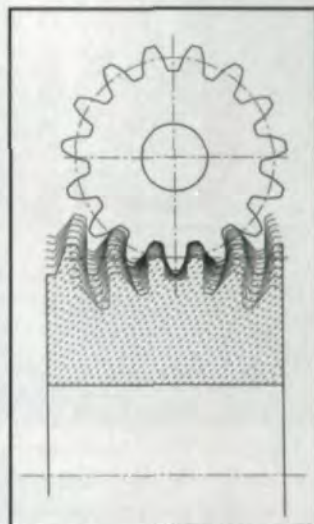

Fig. 2—Gear tooth form development by continuous generating.
- Continuous generating gear grinding is done on a machine using a grinding wheel with a threaded rack tooth form similar to a worm (see Figure 2). The gear rotates continuously as it moves axially past the grinding wheel, which is fed in at the end of each stroke. The mechanics of the operation are analogous to hobbing.